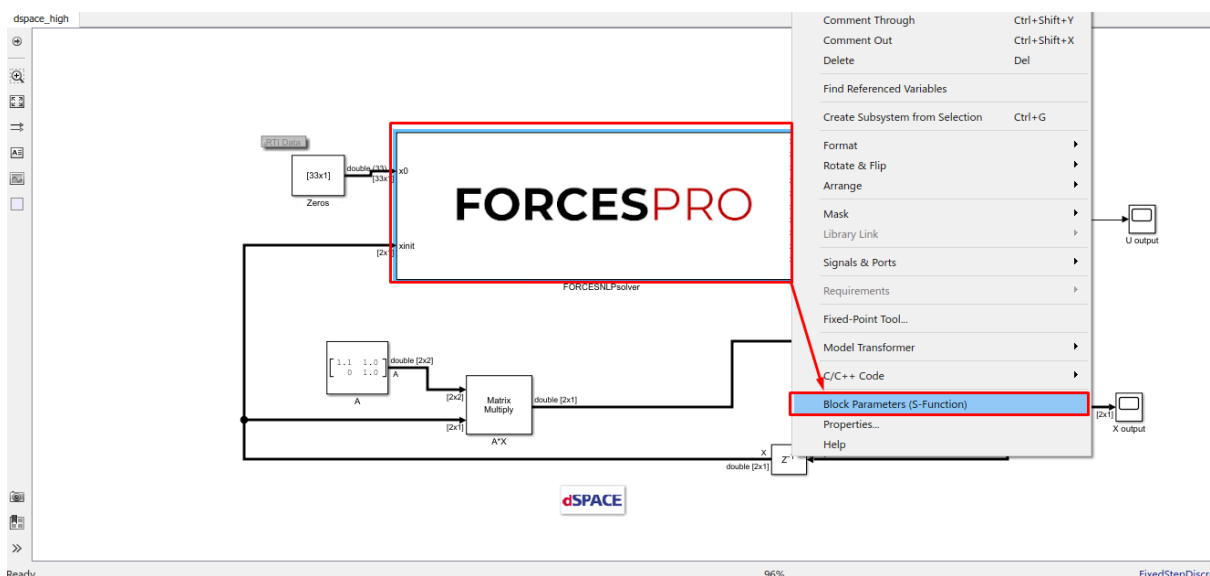

Figure 13.13: Open the FORCESPRO block's parameters.
13. (Figure 13.13) Access the FORCESPRO block’s parameters.